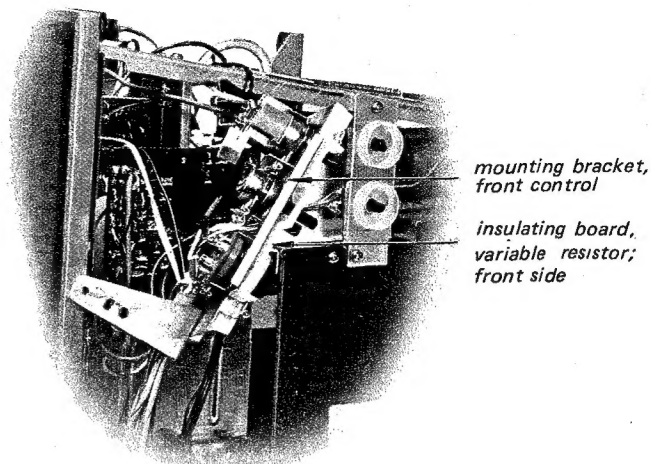

Fig. 2-9.
5. Remove the front side variable resistor insulating board as shown in Fig. 2-9.